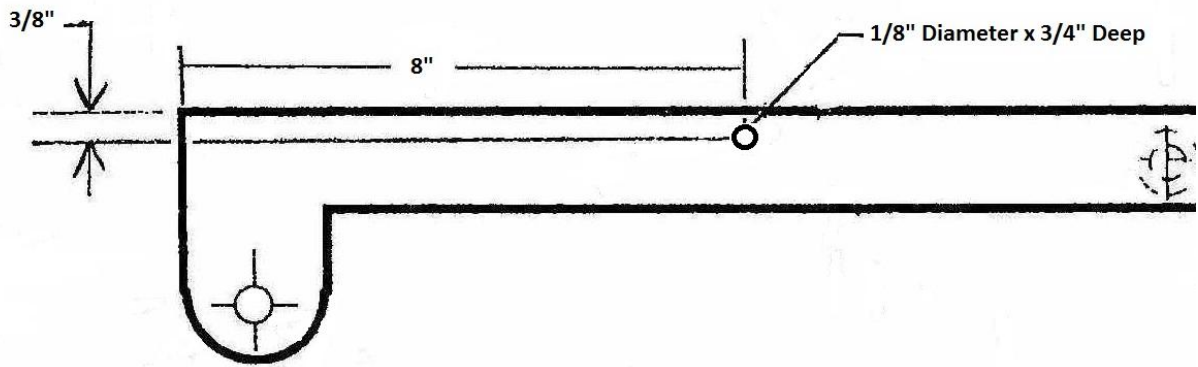

Figure 4: Magnet/Bracket Location
- Place the Dobby Arm in its uppermost position. Measure and drill a 1/8" diameter hole to 3/4" deep at the location identified in Figure 4.